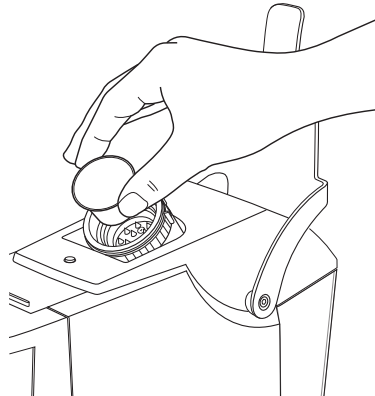

Figure 4
5. Insert coffee capsule into the capsule cartridge. See figure 4.